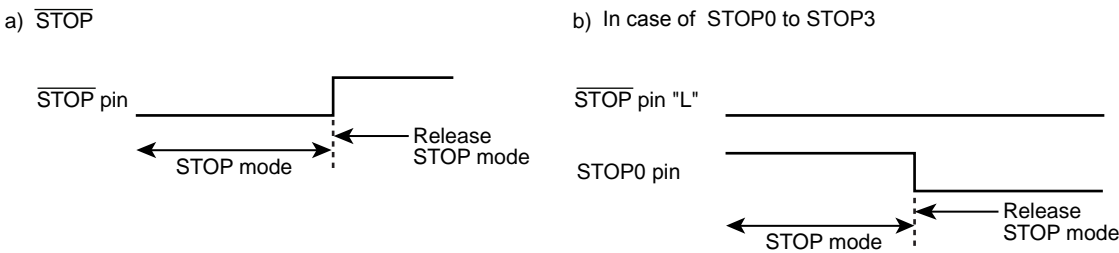

Figure 18-3 Priority of $\overline{\text{STOP}}$ pin and STOP0 to STOP3 pins
- Note 6: When the STOP mode is released by STOP0 to STOP3 pins, the level of $\overline{\text{STOP}}$ pin should hold "L" level (Figure 18-3).